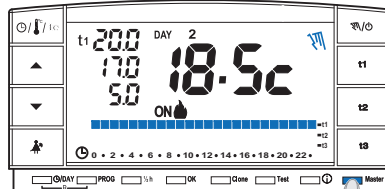

fig. 87
- briefly press the "Master" key; the message **Master** will disappear from the screen: the chronothermostat stays in "permanent manual" operation and the zones assigned to the master will return under the control of their transmitters. (example in fig. 87).